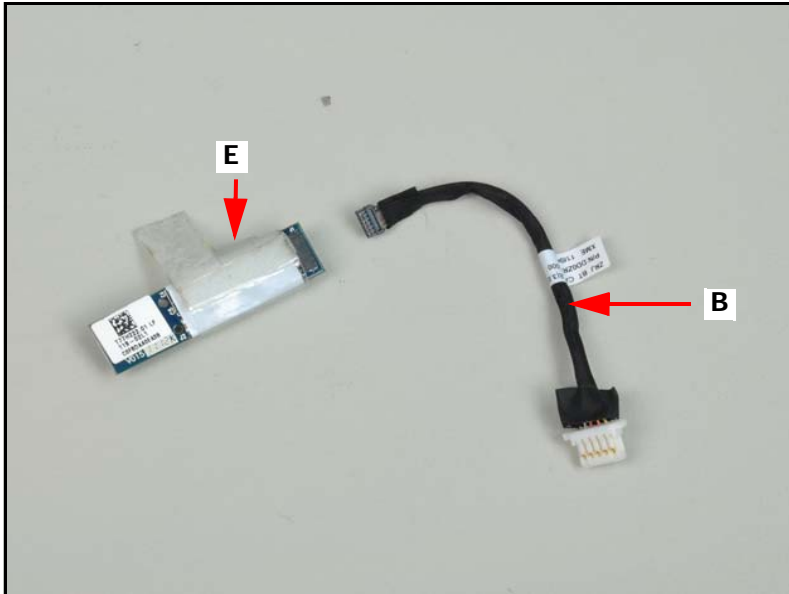

Figure 3-24. Bluetooth Module
5. Disconnect the bluetooth cable (B) from the bluetooth module (E) (Figure 3-24).